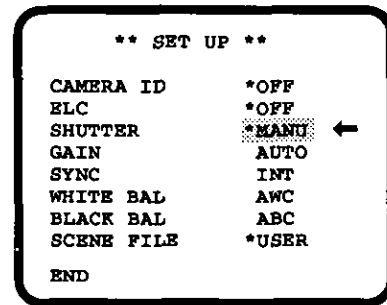

Fig.27.
- Display the SETUP menu as shown in Fig.27.